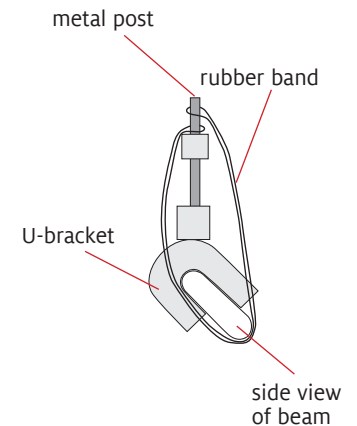

FIGURE 2
- set the bracket/raddle assembly onto the rear oval beam of the Wolf loom with the shorter end of the U-bracket under the beam (see figure 2).
- secure each bracket with a long rubber band (see figure 2).